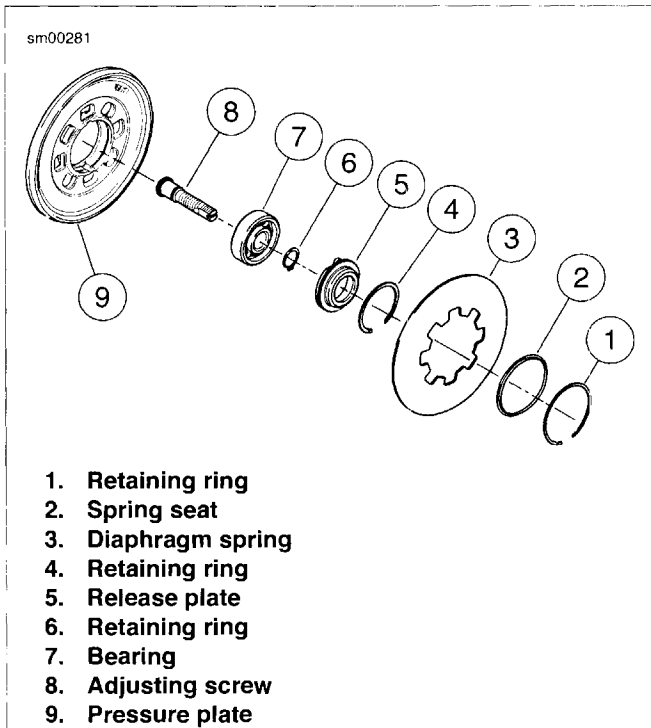

Figure 5-16. Adjusting Screw Assembly
1. See Figure 5-16. Remove adjusting screw assembly.
- a. Remove and discard small retaining ring (6).
- b. Separate the adjusting screw (8) from the bearing (7) and release plate (5).
- c. Remove bearing (7) from release plate (5).